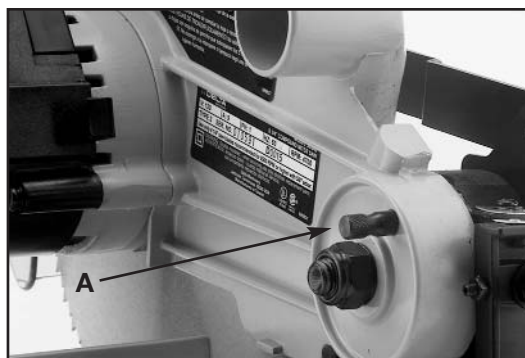

Fig. 16
When transporting the miter saw, lock the cutting arm in the down position by lowering the cutting arm and pushing in on arm locking pin (A) Fig. 16.